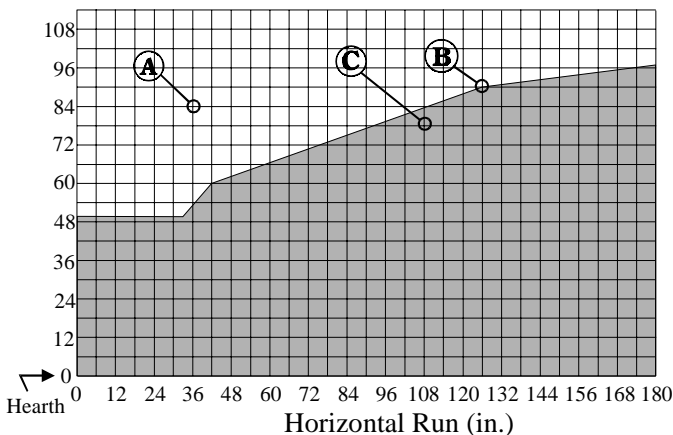

Figure 18a. MD38-DV-2 Rear Vent Venting Graph
- your vent run must fall within the limits set by Figure 18a
Measure the vertical height from the fireplace hearth to the centre of the termination and the horizontal run from the fireplace flue collar to the wall flange of the termination. Plot on the Venting Graph (Fig. 18a) with an 'X'.
Venting runs *must* fall within the limits set by the venting graph (see Figure 18a).